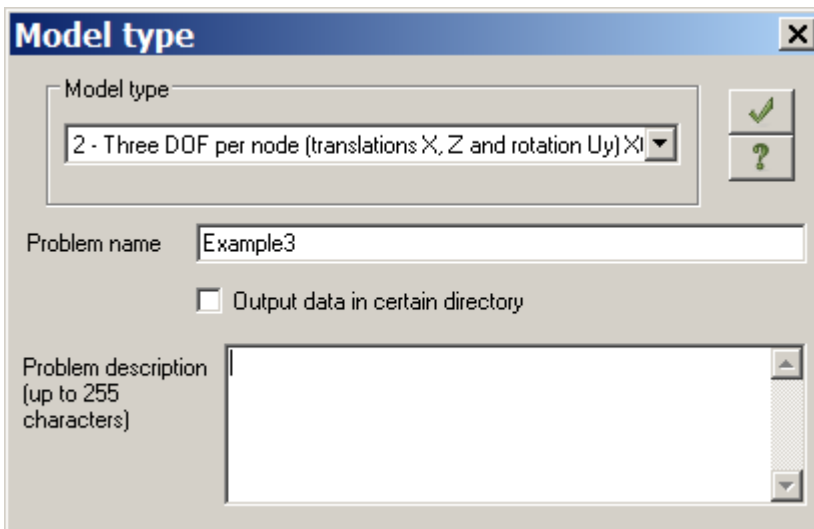

Figure 3.2 **Model type** dialog box
- ⇒ In the **Model type** dialog box (see Fig.3.2) specify the following data: